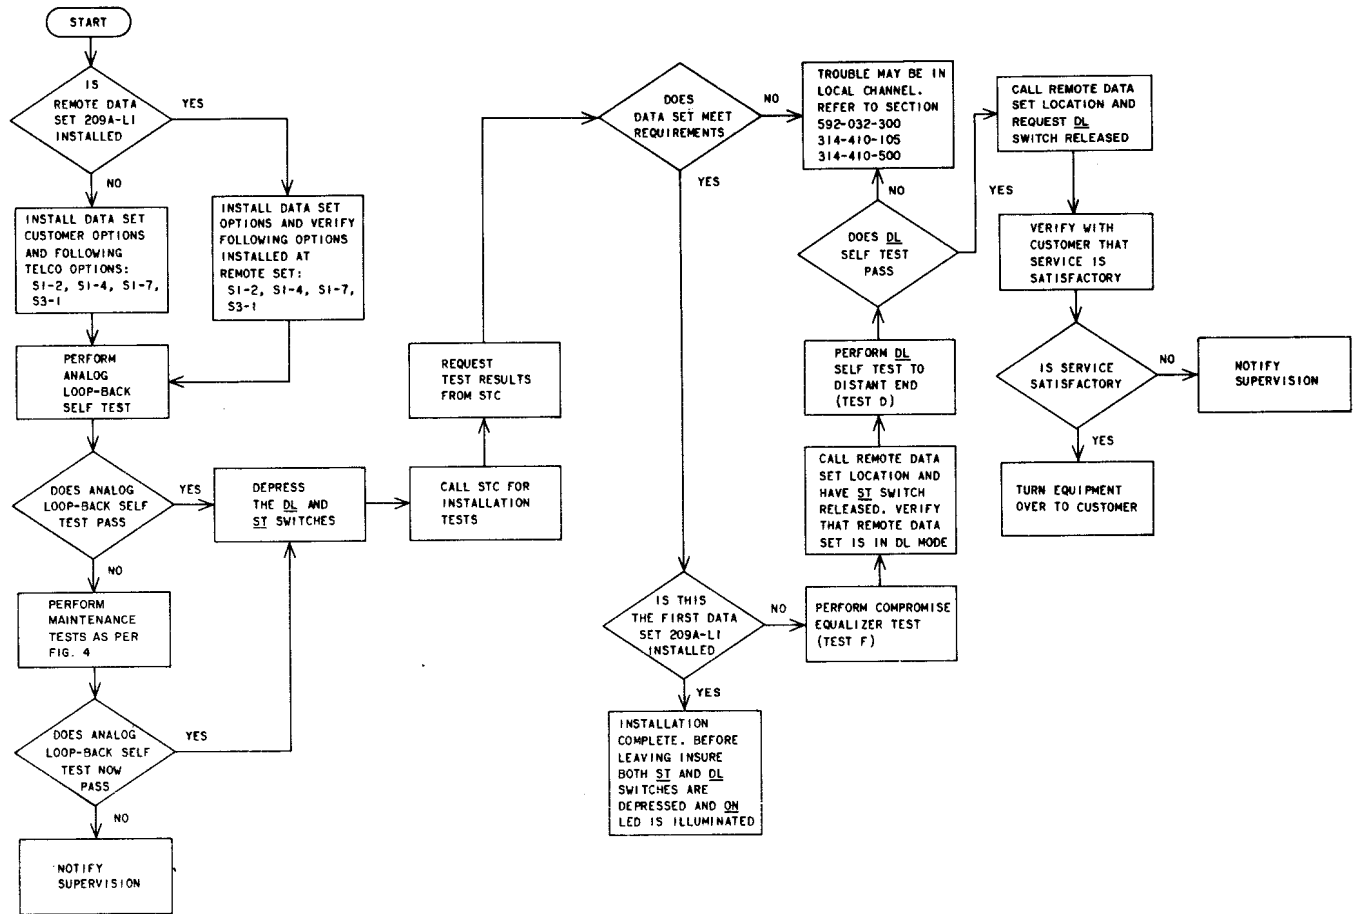

Fig. 1—Installation Testing Flowchart
**3.02** Refer to Fig. 1 for the sequence of tests to be performed and to Part 5 for test procedures.